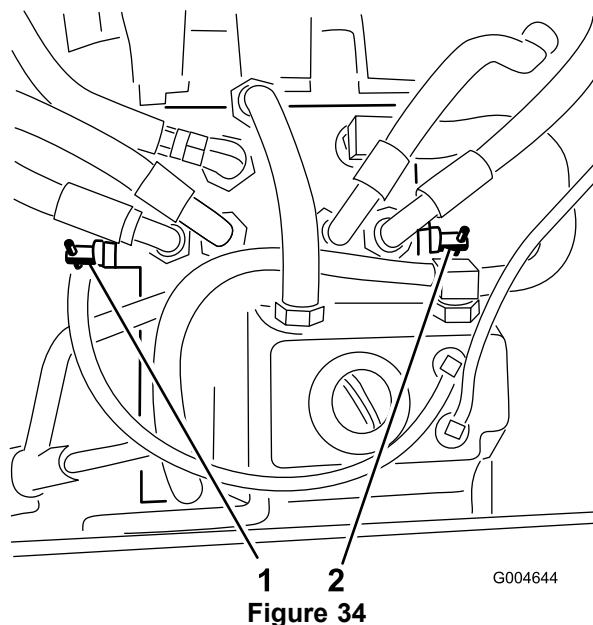

Figure 34
3. Rotate each by-pass valve counterclockwise 1 turn (Figure 34).
Rotate each by-pass valve clockwise 1 turn and hand tighten them (torque of approximately 8 N-m (71 in-lb) (Figure 34).